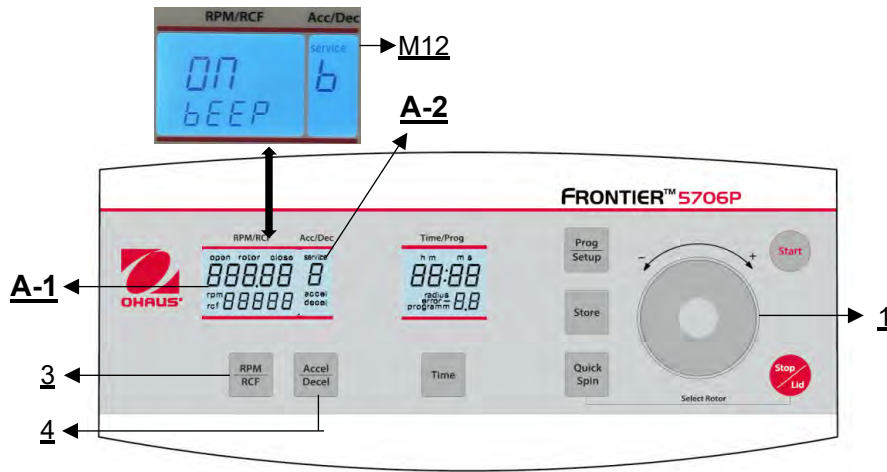

Figure 31
Proceed as described under point 4.1.1 to enter this program mode and then press the key **"Accel/Decel"** (4). In the display **"Acc/Dec"** (A-2) the word **"Service"** (M12) flashes. Now select the letter **"b"** with the touch wheel (1). As a result, in the display **"RPM | RCF"** (A-1), the word **"ON/BEEP"** appears. After pressing the key **"RPM | RCF"** (3), you can turn the keyboard sound (On) or (Off) with the touch wheel (1) (see figure 31).